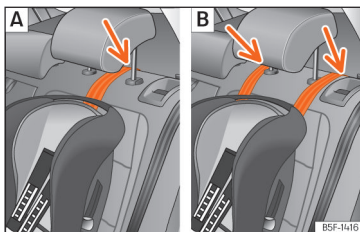
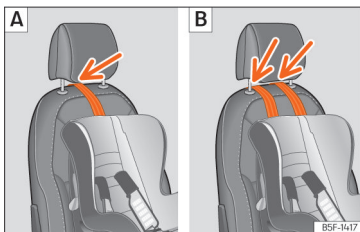

Fig. 44 Rear seats: adjustment and assembly according to the Top Tether belt.
Fig. 45 Passenger seat: adjustment and assembly according to the Top Tether belt.
- Position the belt under the headrest (according to the instructions of the seat itself, lift or remove the headrest if necessary) »» Fig. 44 , »» Fig. 45.